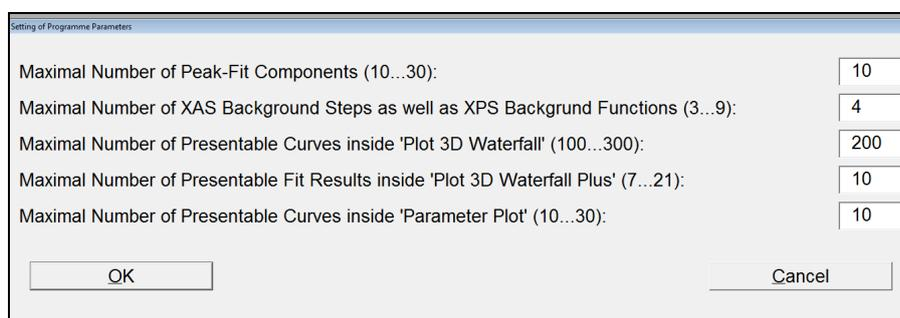

Fig. 1. Dialog for the definition of general program parameters
- ii) Implementation of an adjustment of the general program parameters on the used computer system. The maximal number of five parameters can optionally be selected (see Fig. 1).